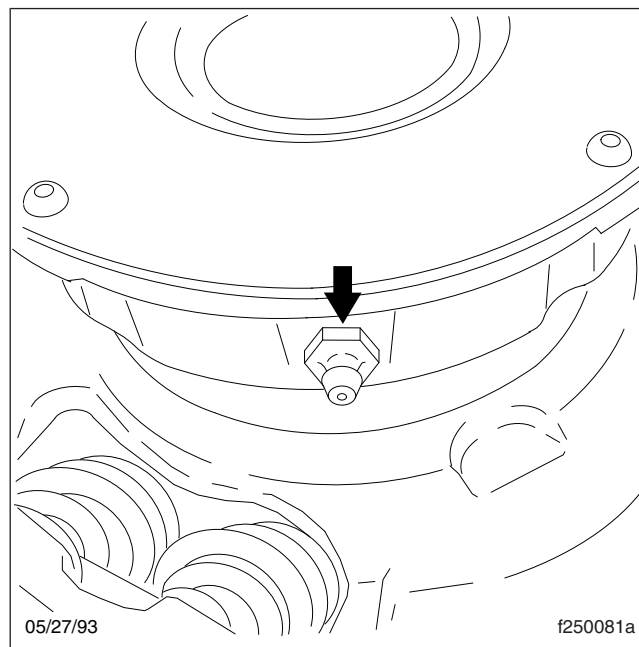

Fig. 1, Release Bearing Grease Fitting
3. Wipe any dirt away from the grease fitting. See Fig. 1. Using a pressure-type grease gun equipped with the recommended grease, lubricate the bearing until excess grease purges from the rear of the release bearing (toward the transmission).